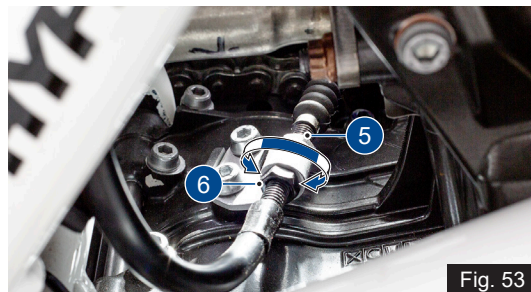

Fig. 53
- Lock the lock nut (3) again.
- Re-fix the dust cover (2) and cable clamp (1).
- Loosen the lock nut (5) at the bottom end of the clutch cable (ref. Fig. 53).
- Turn the adjuster in (6) 'in' or 'out' until the specified play is obtained and then tighten the lock nut and check the adjustment once again (ref. Fig. 53).